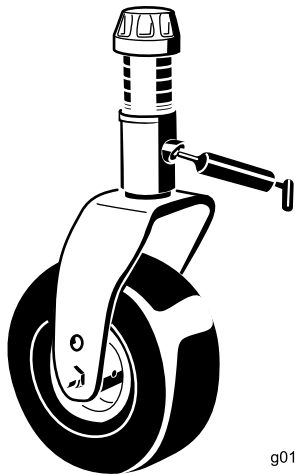

Figure 42
- 1 caster-fork-shaft bushing (Figure 42)